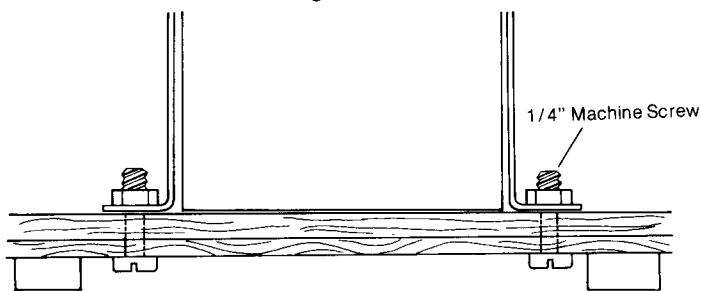

Figure 33
6. Position the saw over the four holes you drilled and insert 1/4" machine screws through the holes FROM THE BOTTOM and install 1/4" nuts on the top. Tighten securely. (See **figure 33**.)
- In order to prevent the screw heads from marring the surface to which you clamp the saw, attach two strips of scrap wood to the bottom of the plywood base, as shown in **figure 33**. These strips can be attached with glue, or wood screws can be installed from the top side as long as they don't protrude through the bottom of the strip.